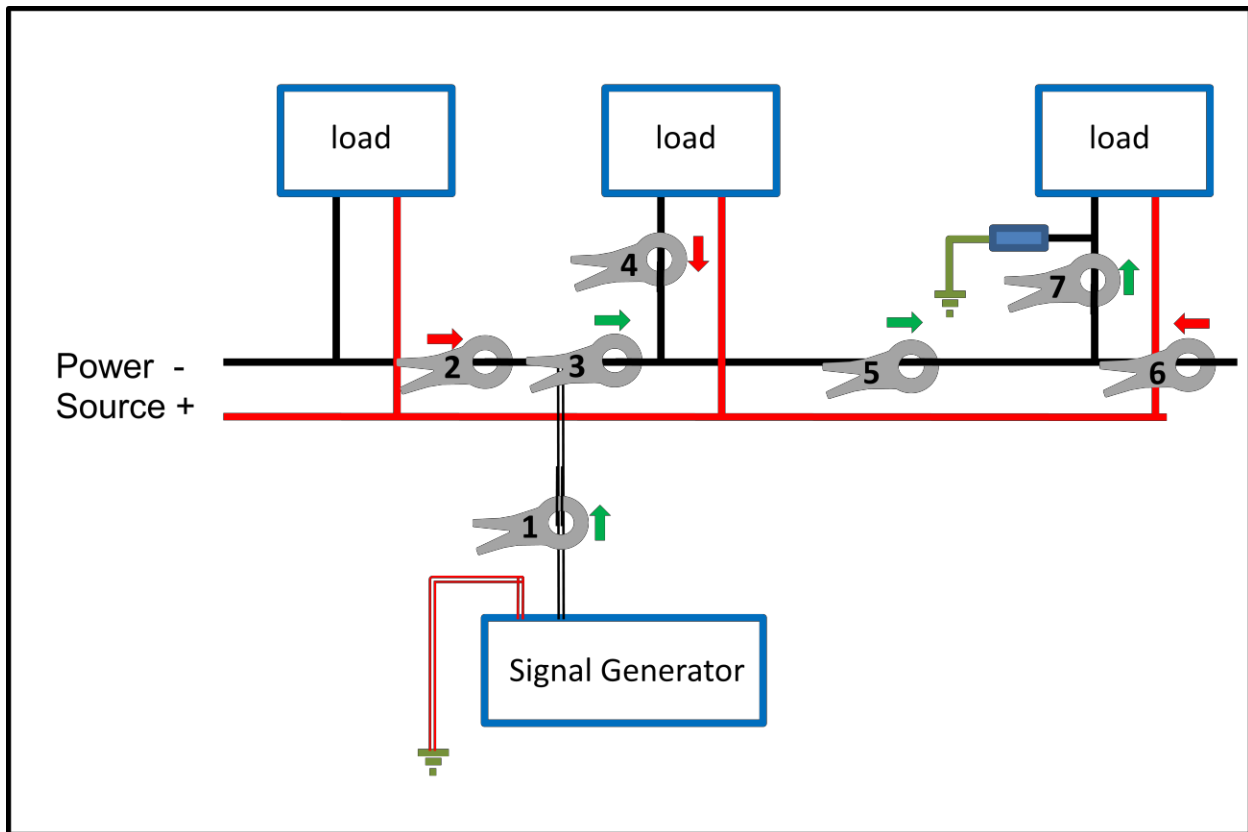
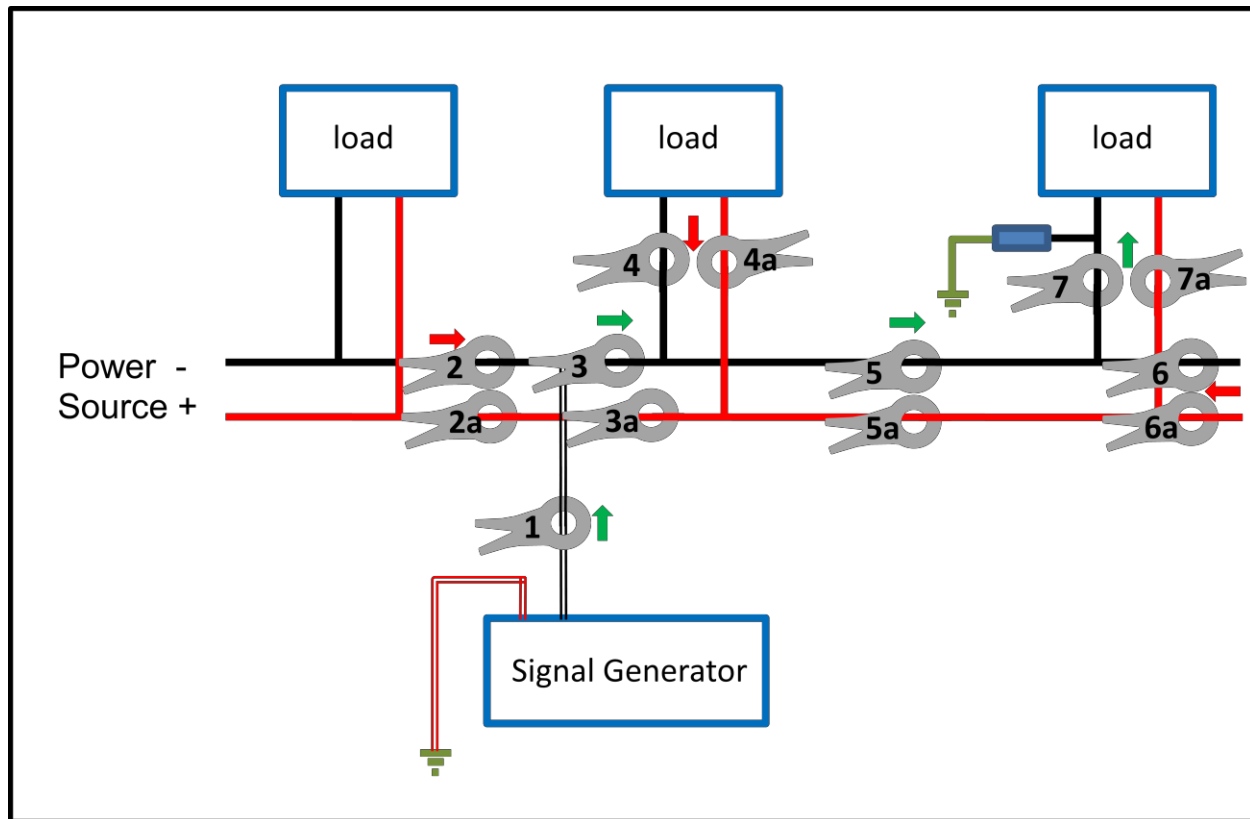

Figure 5-1 Tracing a Ground Fault
Figure 5-4 Tracing a Ground Fault using Two Clamps
The Signal Generator should be connected to the system under test as described in Section 4.2.3. The fault is traced by following the current from the signal generator through the wiring system until the faulty branch is located. Figure 5-1 shows how a fault can be traced by moving the clamp by following the green arrow, until the faulty branch is isolated.
In Figure 5-1, the first clamp position (1) the arrow on the display indicates that the current flow – and therefore the fault current, is present in this branch of the circuit. Therefore, the clamp is moved to the next position (2). Here the arrow indicates the fault current isn't present here, so clamp is moved to position (3) and so on until the faulty branch is isolated at position 7.
The Signal Receiver is provided with two identical current clamps. Either clamp may be used to trace the signal from the Signal Generator by applying the clamp around as many or as few conductors as convenient. However, in systems that exhibit a high level of interference, it is recommended if possible, to either use a single clamp around both main bus bars and cables, or to use both clamps one around each busbar. This will cancel system noise and make tracing the signal from the generator easier. This is shown in Figure 5-4, where two clamps are used (except for the first measurement) and the fault is traced in the same way as before in Figure 5-1.